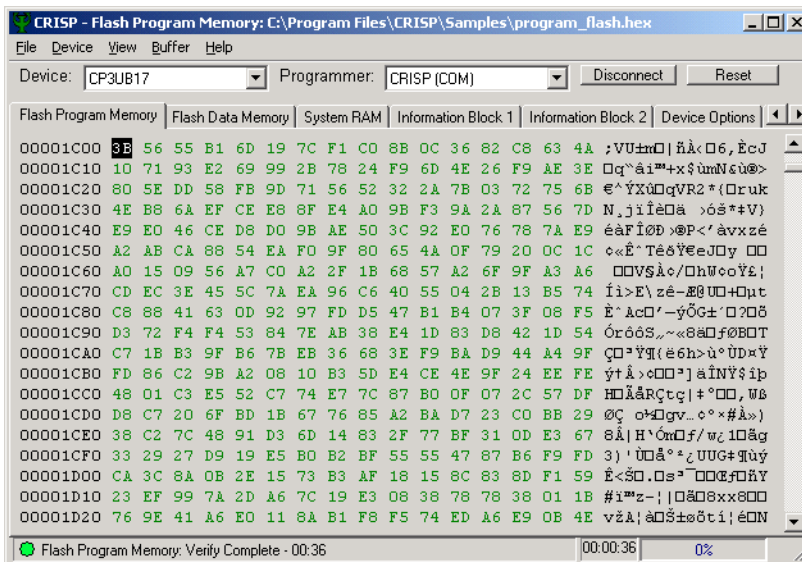

Figure 5-14. Status Bar after the Verification Process
3. **Verification Complete.** If the verification was successful, the status bar's circle should have returned to its green color and display the message "Verify Complete", as shown in Figure 5-14.